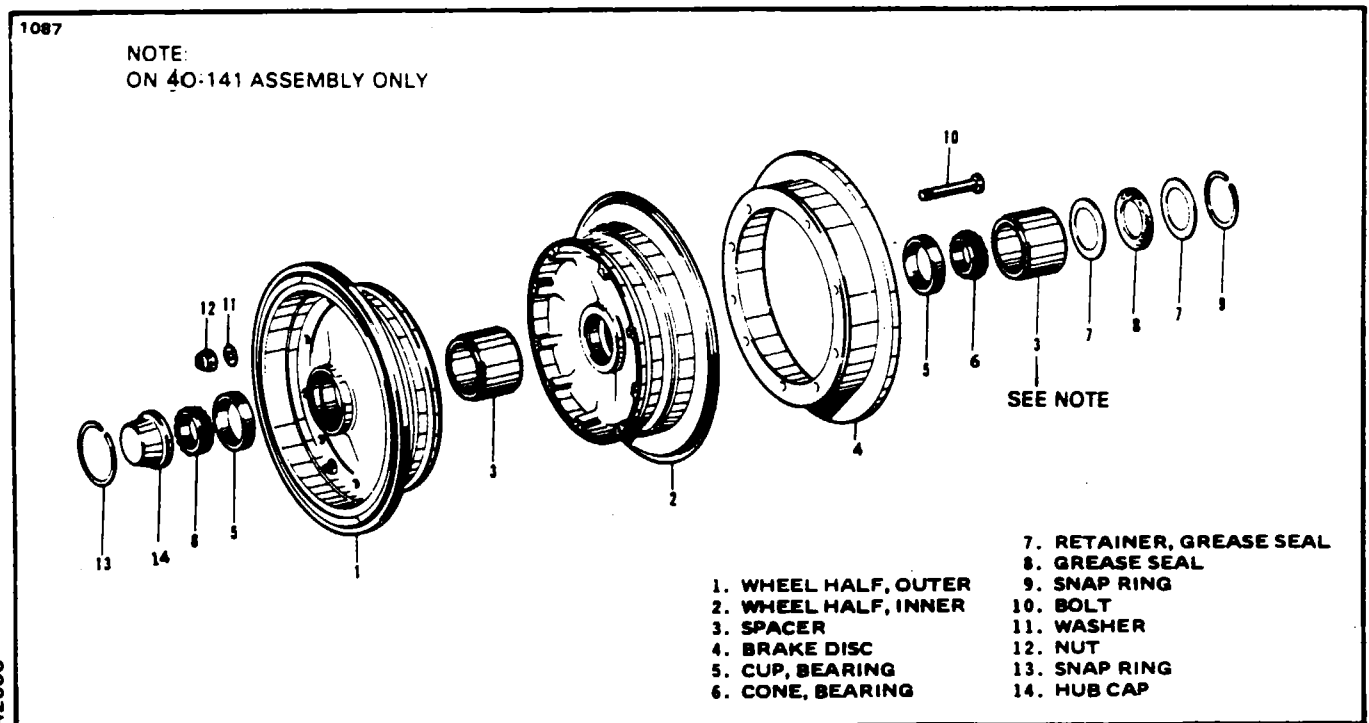

Figure 7-16. Main Wheel Assembly (Cleveland)
7-46. REMOVAL AND DISASSEMBLY OF MAIN WHEEL. (Refer to Figure 7-16.)
7-48. ASSEMBLY AND INSTALLATION OF MAIN WHEEL. (Refer to Figure 7-16.)
- a. Ascertain that the bearing cup (5) in each wheel half (1 and 2) is fully seated in the wheel housing. Lubricate the bearing cones (6) per lubrication chart in Section II. Install cone, grease seal retainer (7), grease seal felt (8), and snap ring (9) into the proper wheel halves.
- c. Place outer wheel half (1) into tire and pull tube valve stem through valve hole. Turn tire and outer wheel half (2) over and place the spacer (3) (Refer to Figure 7-16) and inner wheel half into position and align the bolt holes with the outer wheel half and the brake disc. Install bolts through the brake disc and inner wheel half and washers and nuts on the outer wheel half. Torque wheel nuts per recommended torque value on name plate of wheel.